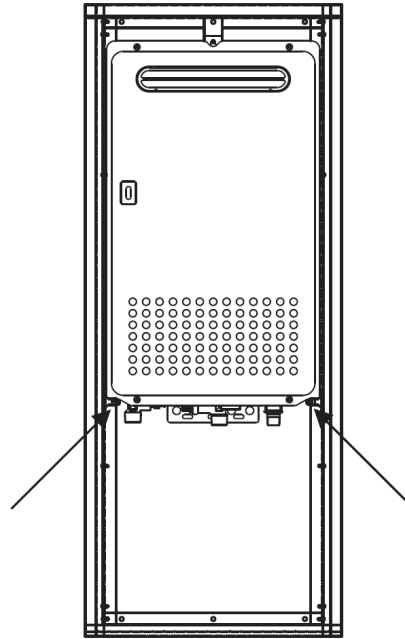

Fig. 4 Location of lower mounting bracket
- ▶ Finally, install the 2 remaining mounting screws in the lower recess box brackets and tighten all 3 screws to secure the heater (see Fig. 4).